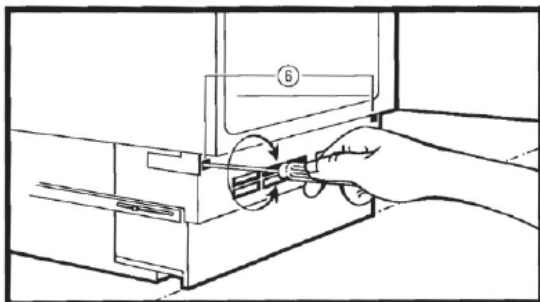

Fig. D1
- In both cases, secure the plinth in position by turning the screws (6) clockwise until considerable resistance is felt, as shown in Figure D1.